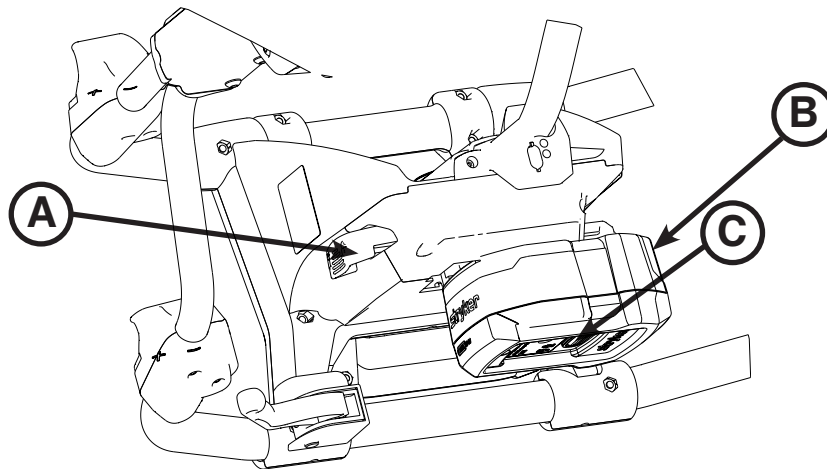

Figure 78
1. Press the red one hand release button (C) or press the battery release button (A) to release the **SMRT™** Pak (B) from the cot as shown in Figure 78.